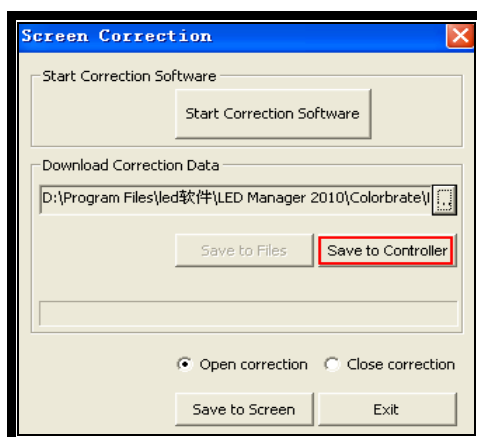

Fig.3-38
Step35: Click the “Save to Controller” button, as shown in fig.3-38, the correction data file is downloaded to the controller.
Tips: Select the correction state with “Open correction” option or “Close correction” option in the Screen Correction window as shown in fig.3-38. then click the “Save to screen” button in the Screen Correction window. The software will save the correction state to controller, when the controller is restarted, it will automatically load the last saved state.